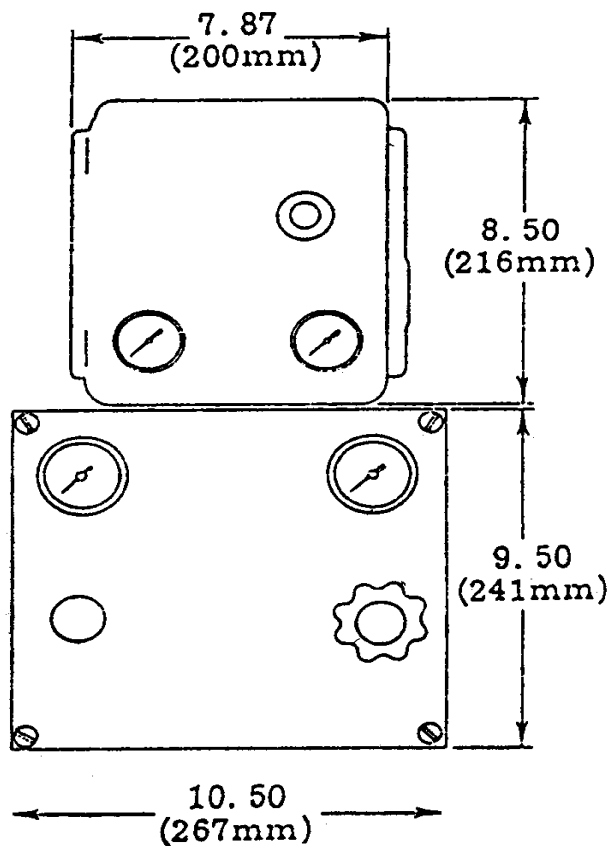

Figure 3-1
3.03 Controller Assembly Installation: If a console mount Satellite (SA102) has been ordered with a Drill-Central console, the controller assembly will be installed and will only require hookup. The bourdon tube will be vacuum pumped and filled at the same time as the weight indicator. The unitized Satellite (SA100) controller assembly will require installation as well as hookup. The unitized controller is supplied mounted on a plywood board with all of the integral tubing connections made up. Figure 3-1 gives the overall dimensions for mounting the unitized controller assembly. Mount the controller assembly near the driller's position protected from the weather, preferably in the doghouse close to the door. Fill bourdon tube and all hydraulic plumbing leading to it with **Instrument** hydraulic fluid (W15) Paragraph 7.02.